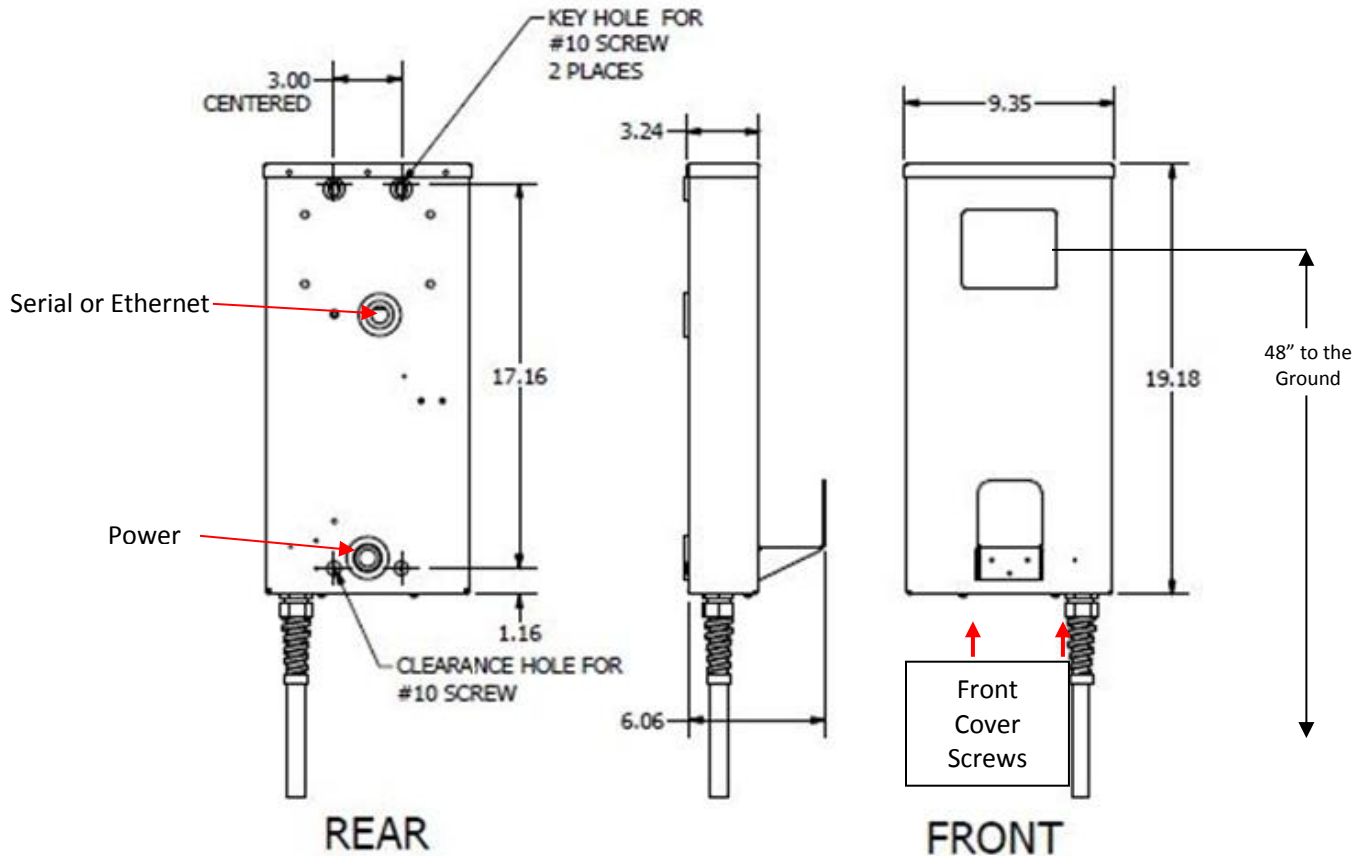

Figure 5
2. Mark and drill 4 holes into the wall, duplicating the pattern shown in **Figure 5**. The mounting hardware/holes should be designed around #10 screws.
4. Place the EVSE on a table and remove its front cover by removing two screws from the bottom-front of the EVSE (**Figure 5**).
7. Wire the EVSE for power. EVSE red and black wires from the service panel enter through the lower hole and are connected to the GFCI Module (**Figure 4**). Torque the wires to 18.5 in-lb (**Figure 5**).
8. Each of the green ground wires from the service panel connect to the ground bar on the EVSE's back panel (**Figure 5**).
1. Remove the front cover by removing two screws from the bottom-front of the EVSE (**Figure 5**). **Note:** Hold the cover as you remove the screws so it doesn't fall.